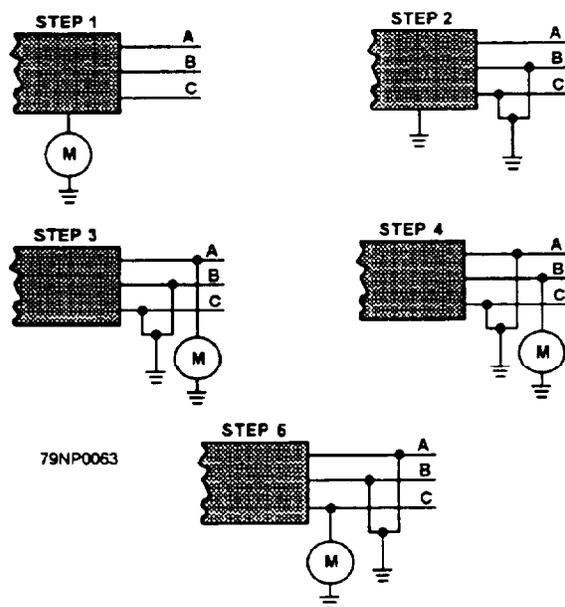

Figure 2-16.—Measuring circuit insulation resistance.
As you use the table, refer to figure 2-16. You should make measurements of the lighting, power, and degaussing circuits as shown in table 2-7.
Step 1	Check to see that the cable armor is adequately grounded by measuring between the cable armor and the metal structure of the vessel (fig. 2-16, step 1). Normally, grounding has been accomplished with cable straps. If a zero reading is not obtained, ground the cable armor.
Step 2	Select one lead to be measured, and connect all the other leads in the cable together. Ground them with temporary wires (fig. 2-16, step 2).
Step 3	Measure the resistance of the lead being tested to ground (fig. 2-16, step 3). Apply the test voltage until a constant reading is obtained. Crank the hand-driven generator instruments (Meggers) for at least 30 seconds to ensure a steady reading.
Steps 4	Repeat steps 2 and 3, as necessary, to measure each leg or phase lead to ground (fig. 2-16, steps 4 and 5). When circuits contain permanently connected paths between legs or phases, such as transformers, indicator lights, or control relays, take measurements only between one lead and ground. However, low readings may require further tests.